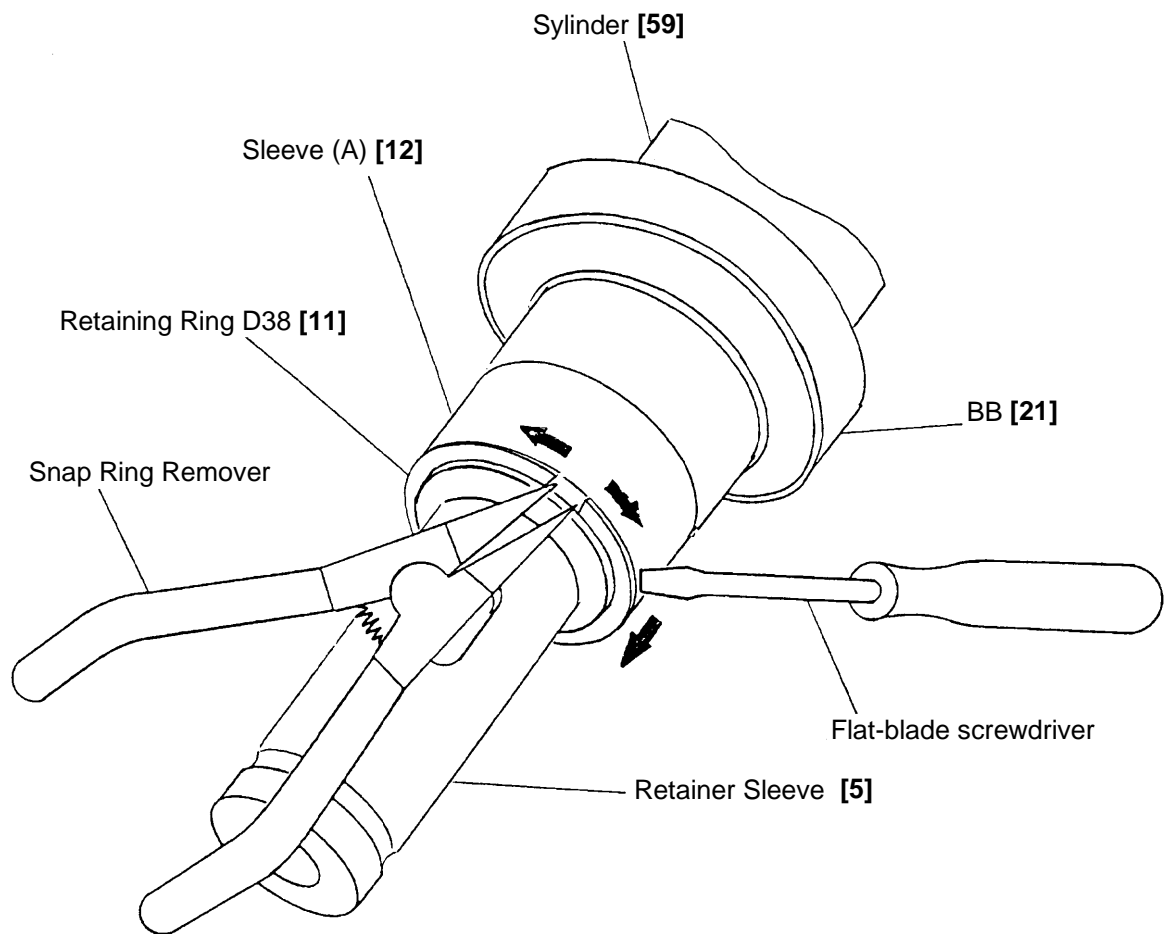

Fig. 18
(4) Disassembling the Retainer Sleeve and Cylinder
As shown in Fig. 18, keep the Retaining Ring D38 [11] open with the snap ring remover, insert a flat-blade screwdriver into the gap, and pry with the screwdriver to remove it. Remove the Sleeve (A) [12] and remove the four D6 x 6 Needle Pins [57] so that the Retainer Sleeve [5] and Cylinder [59] can be removed and the Second Hammer [8] taken out.